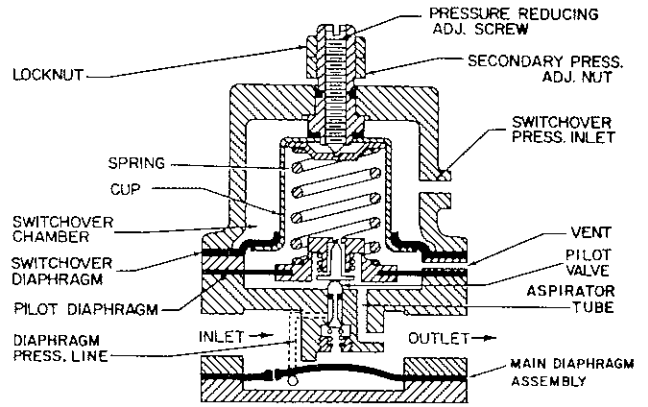

Fig. 3. Detail of Pressure Reducing Valve.
1. Outlet pressure will increase when pressure adjusting screw (Fig. 3) is turned clockwise.
2. When pressure is applied to switchover pressure inlet, the outlet pressure will increase when the secondary pressure adjustment nut (Fig. 3) is turned clockwise.